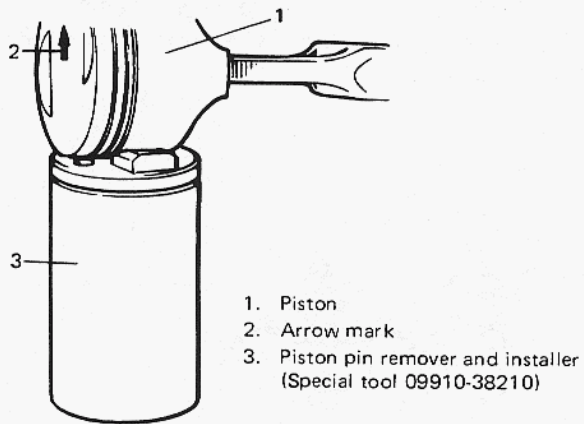
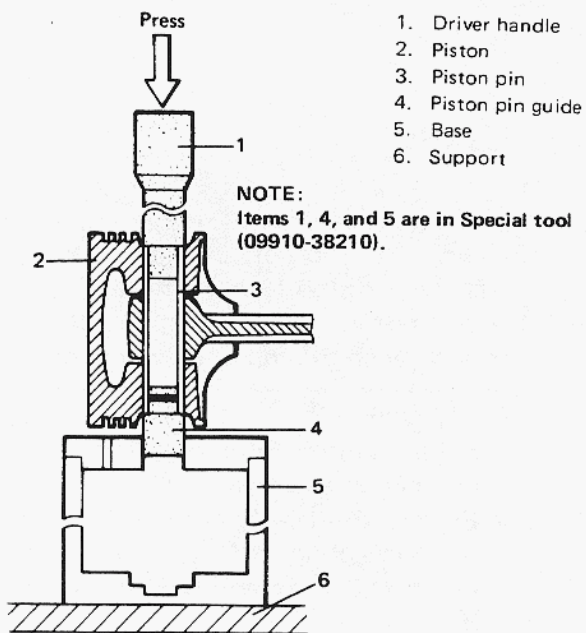

Fig. 3-4-36
Fig. 3-4-37
b) Remove piston pin from connecting rod. Fit piston and connecting rod assembly to special tool (Fig. 3-4-36), and then press piston pin out of connecting rod by using arbor press (Fig. 3-4-37).